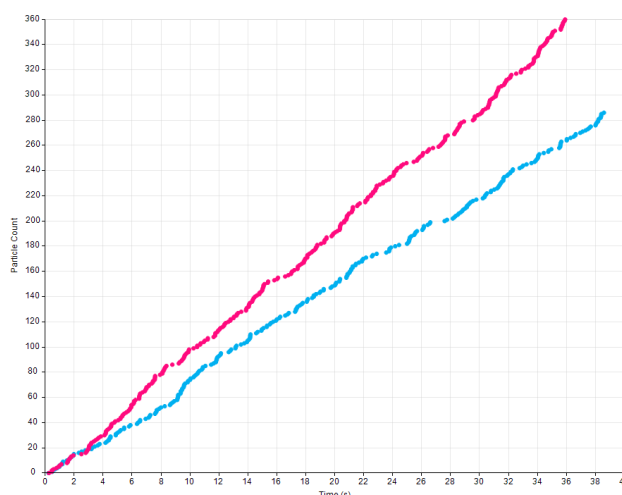

Figure 19. An acceptable particle rate plot. The pink line shows the rate at the higher pressure, while the blue line shows the rate at the lower pressure.
4. Check that the particle counts are linear over time, do not overlap and that the higher pressures have a higher particle rate, as shown in Figure 19.